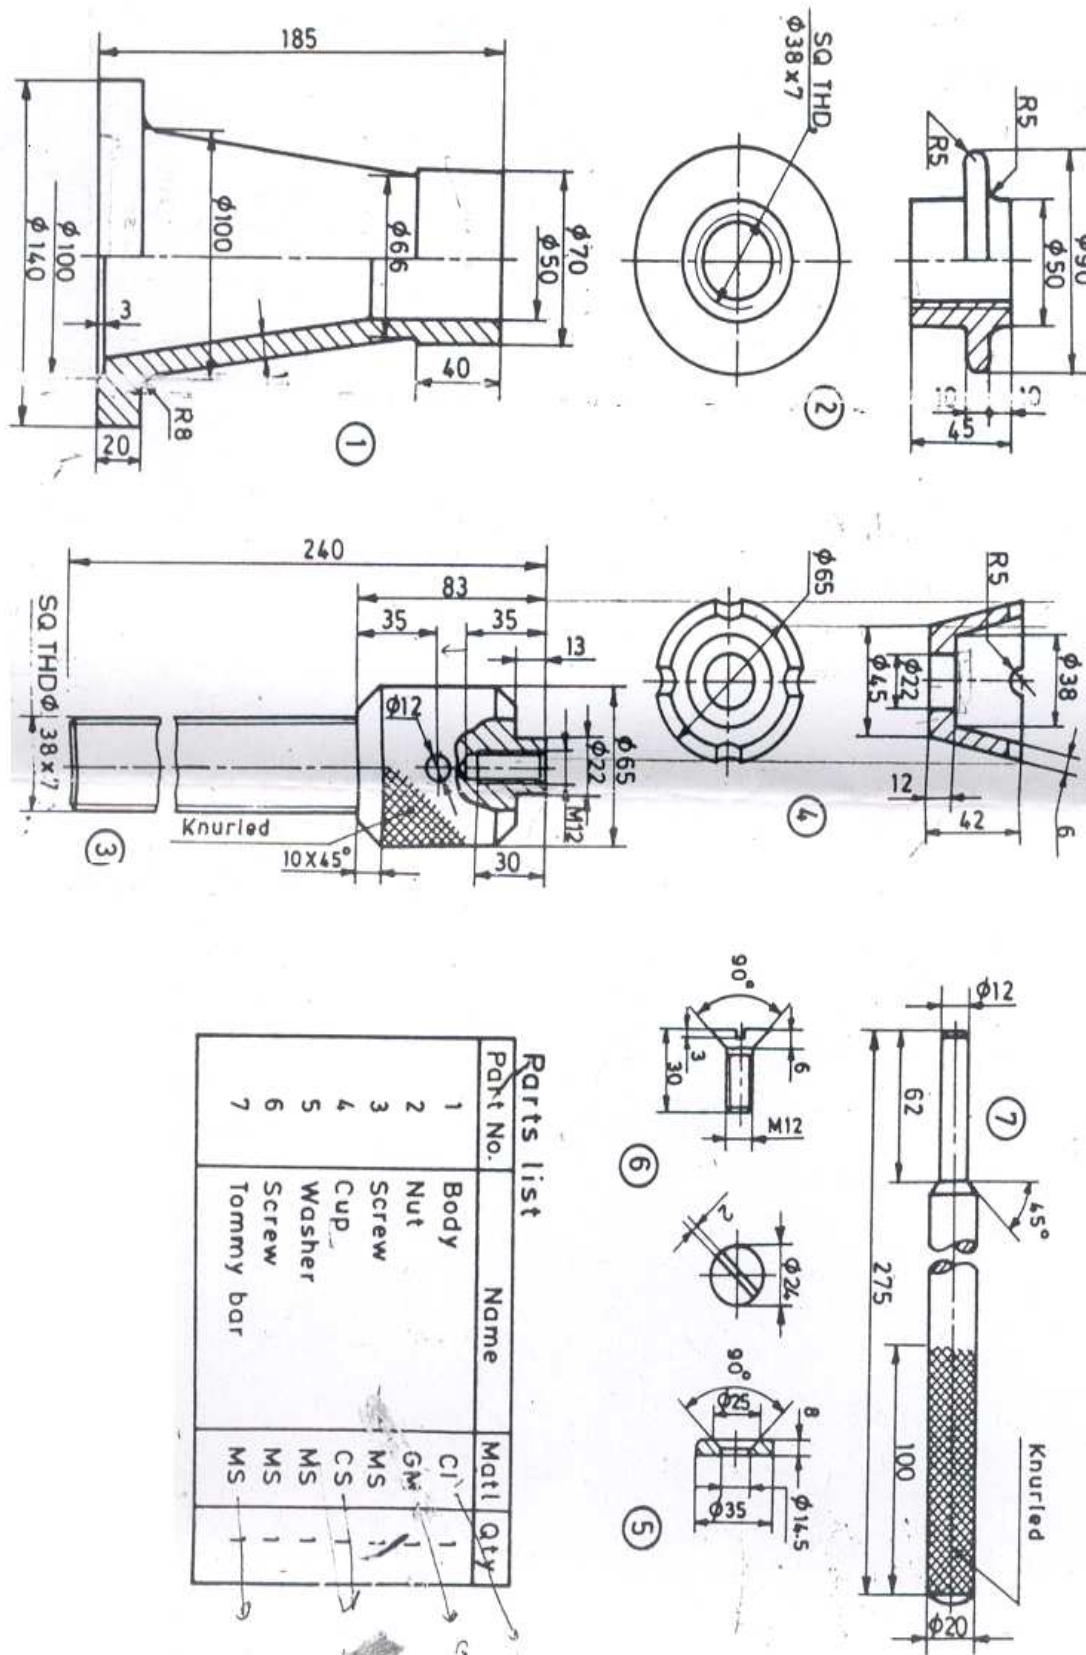

Figure 2:
2. Figure2 shows details of the “Screw jack”. [50]